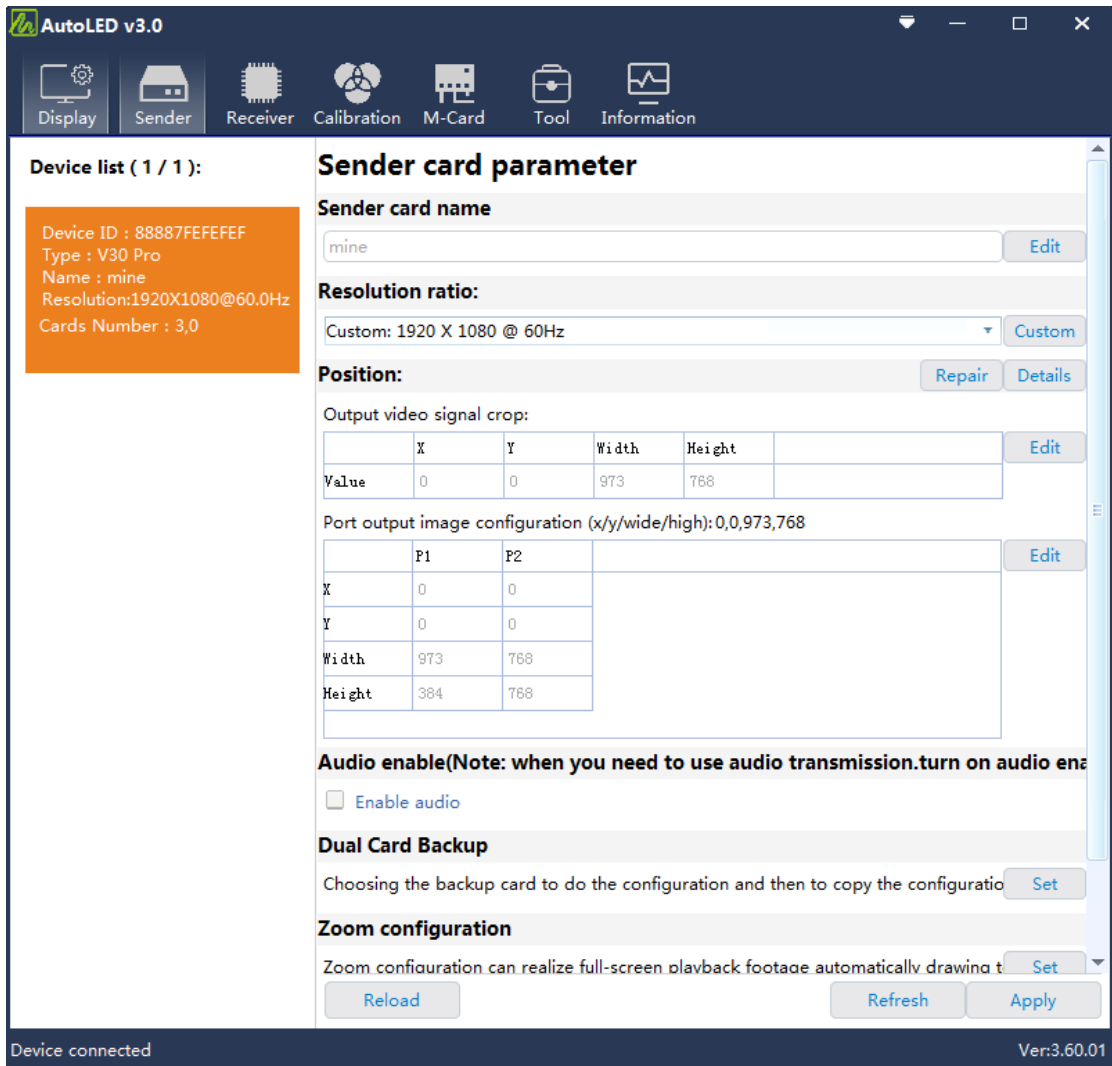

Figure 3-2 The communication status between the sending card and receiving card
Step 3: To confirm the hardware connection. Open the debugging software AutoLED, and confirm whether the communication between the sending card and the receiving card is established, as shown in Figure 3-2.
- **Tips:** From the AutoLED Software to confirm whether the graphics of the computer is well set or not, as shown in figure 3-2.